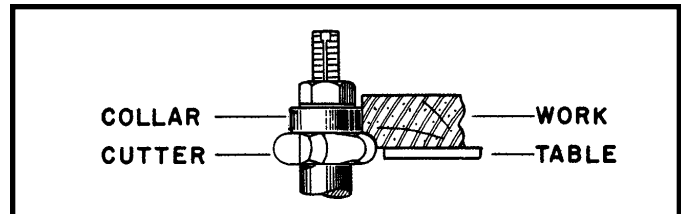

Fig. 44
3. When the collar is used above the cutter as shown in Fig. 44, the cut cannot be seen, yet this method offers some advantage in that the cut is not affected by slight variations in the thickness of the stock. Also accidental lifting of the work will not gouge the workpiece. Simply correct the mistake by repeating the operation.